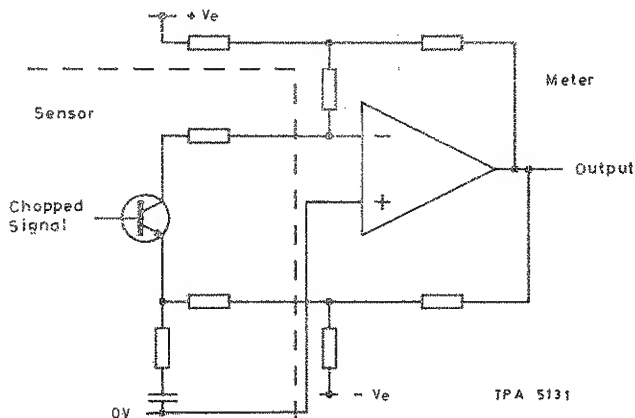

Fig. 2 Simplified circuit of amplifier
5. The amplifier is split between the power sensor and the power meter. A simplified circuit is shown in Fig. 2.